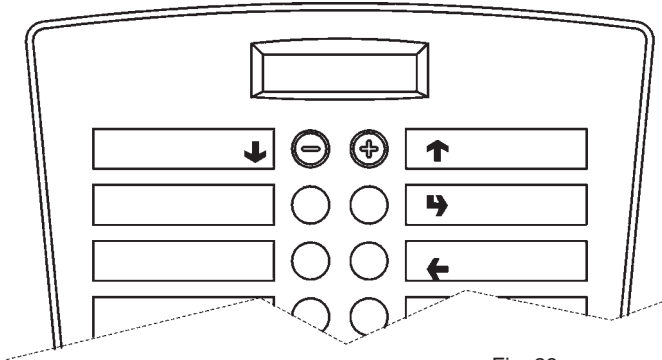

Fig. 23
- External direct selection push-button panel which takes on the following functions when in "Filler" and "Technician" mode (see Fig. 23):